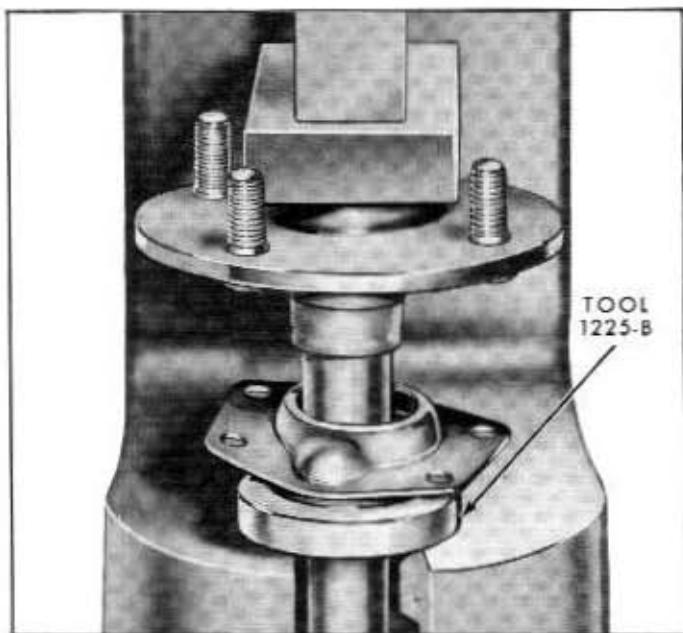

Fig. 4-14—Rear Wheel Bearing Installation—(60C-5205)
2. Install the outer axle bearing retainer on the axle shaft. Using Tool 1225-B, press a new rear wheel bearing onto the axle shaft. The bearing should seat firmly against the shoulder on the shaft. See figure 4-14.